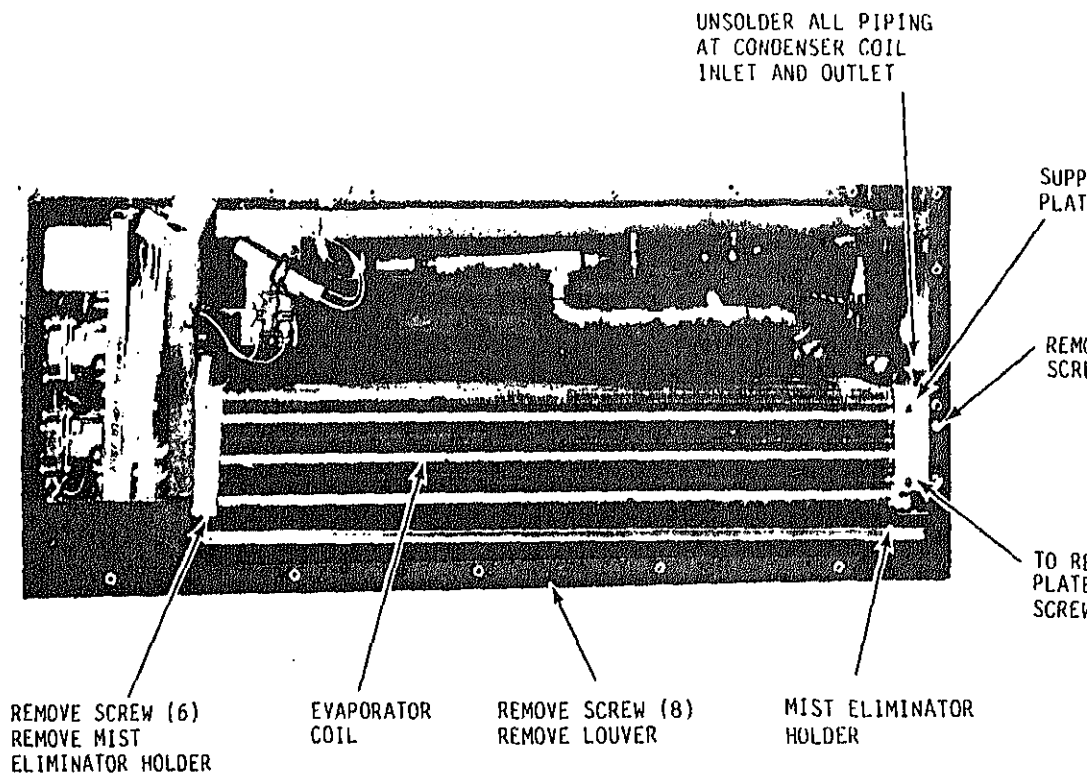

Figure 5-3. Evaporator coil and mist eliminator holder, removal and installation.
(4) Refer to para 4-30 and remove heating elements.
(5) Refer to figure 5-3 and remove support plate that holds coil housing.
(6) Refer to figure 5-3 and disconnect tubing from evaporator coil.
(7) Remove six screws, washers and lockwashers that hold evaporator coil and mist eliminator holders to air conditioner. Remove holders and coil.
(1) Install coil and mist eliminator holder in air conditioner and secure to brackets with six screws, washers, and lock washers. The upper four screws, washers and lockwashers attach both the coil and mist eliminator holder; the lower two hold the coil only.
(2) Refer to figure 5-3 and install coil support plate.
(3) Connect tubing to coil. Leak test as described in 5-6.